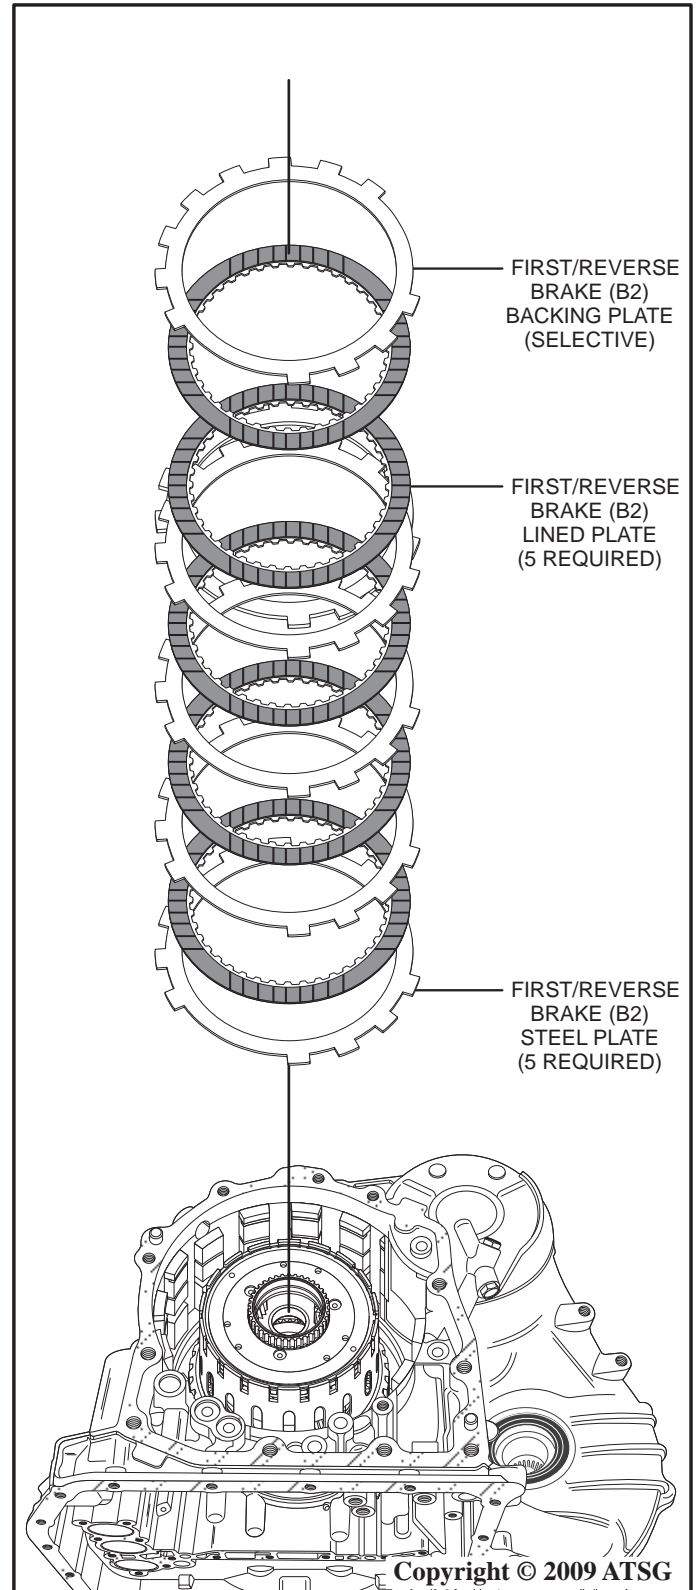

Figure 51
83. Remove the first/reverse brake (B2) backing plate and the steel and lined plates as shown in Figure 51.